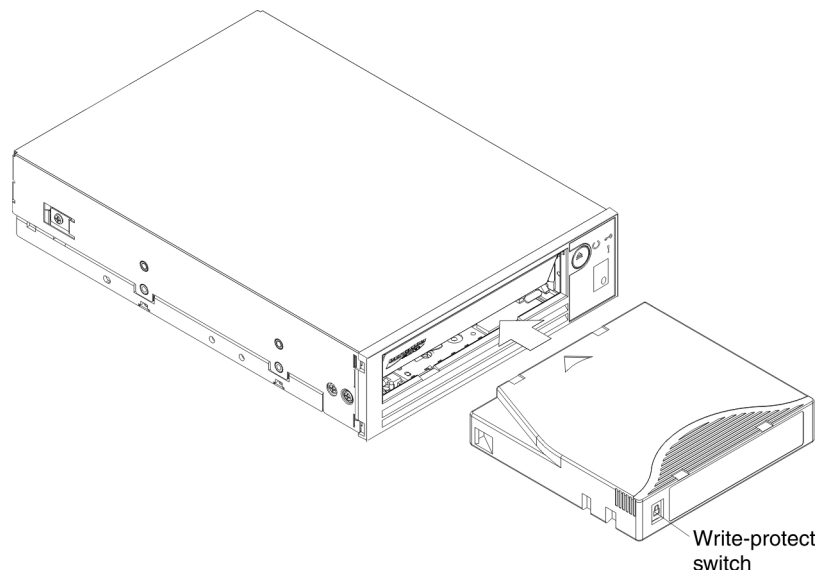

Figure 4. Inserting a cartridge into the drive
3. Grasp the cartridge so that the write-protect switch faces you (see Figure 4).